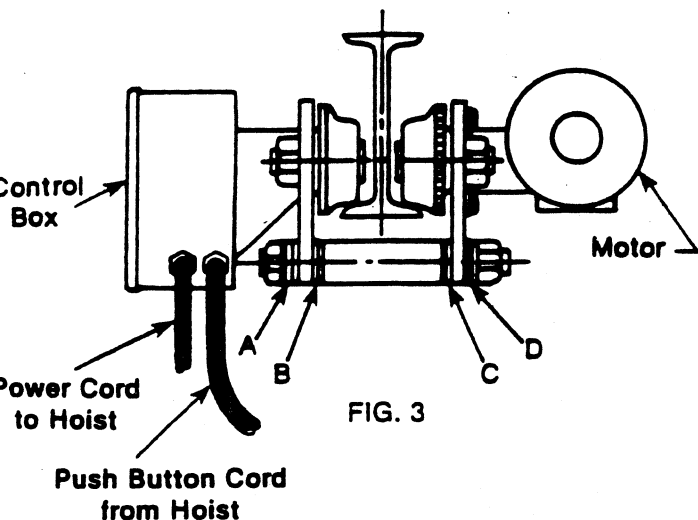

FIG. 3
Cut the hoist push button cord 42 inches from the bottom of the hoist. Remove and discard the strain relief rope. Remove 4 inches of the outer jacket and strip each wire 3/8 inches. Install the cord in the trolley control box as shown in Figure 3. Connect the green wire to the ground lug, the red wire to terminal (15), the blue wire to terminal (H6) and the black wire to terminal (L). For two speed hoist only, connect the orange wire to terminal (28) and the blue wire to terminal (29).